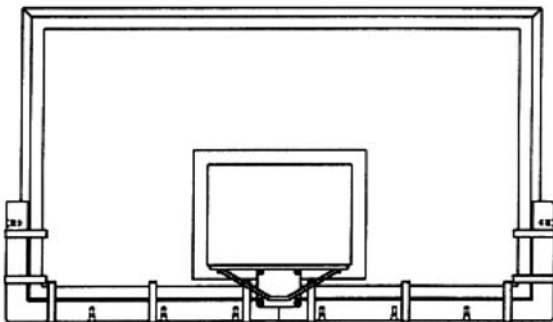

Figure 1
**Note:** It may be helpful to secure with masking tape (as shown in Fig. 1, above) to hold pad in place while completing following steps.
- ③ You may find it is necessary to trim or cut the pad to avoid items that may interfere with installation of the pad. Obstructions may be goal mounting plates, height adjuster bottom plates, etc. If trimming is necessary use a sharp utility knife to trim and remove all necessary urethane material to clear obstructions.